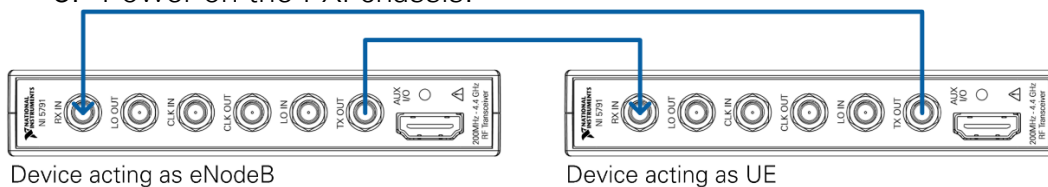

Figure 14 Cabled Connection of Two FlexRIO Devices
2. Create a RF connection as shown in Figure 14: